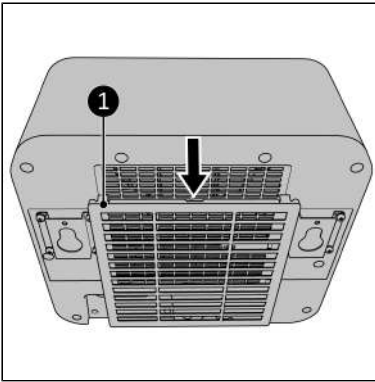
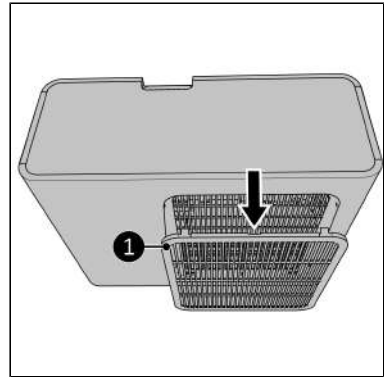

Figure 43.
Figure 44.
2. Remove the frame (Figure 43, pos. 1 for the indoor unit and Figure 44, pos. 1 for the outdoor unit) and remove the filter.